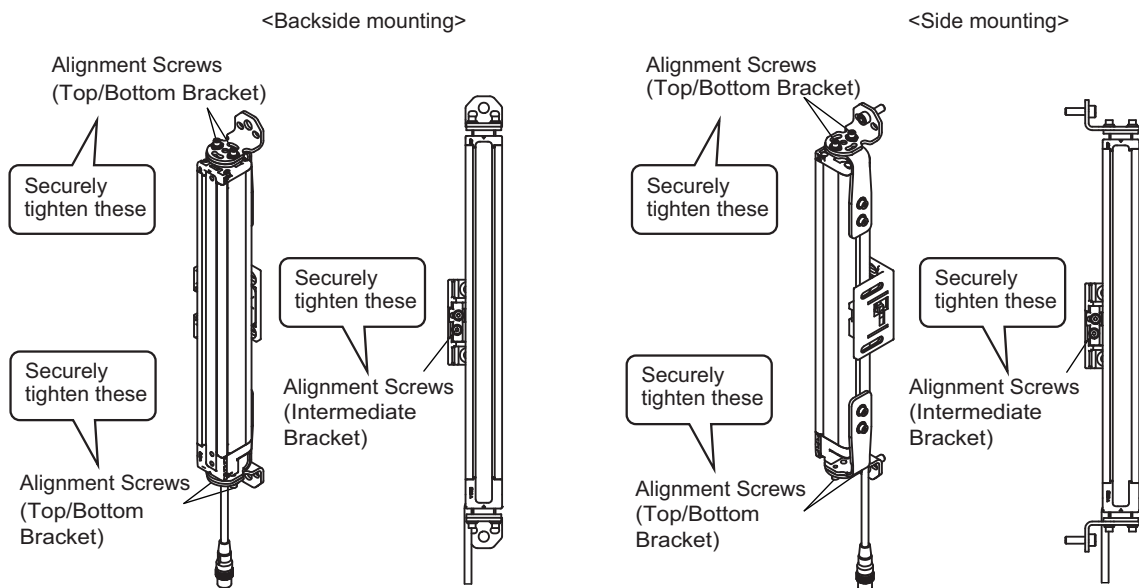

Fig. 10
8. Securely tighten the Alignment Screws of the Top/Bottom Bracket and Intermediate Bracket to fix the bracket to the F3SG-RR housing. The recommended torque to tighten the Alignment Screws is 3.0 N•m. (Fig. 10)